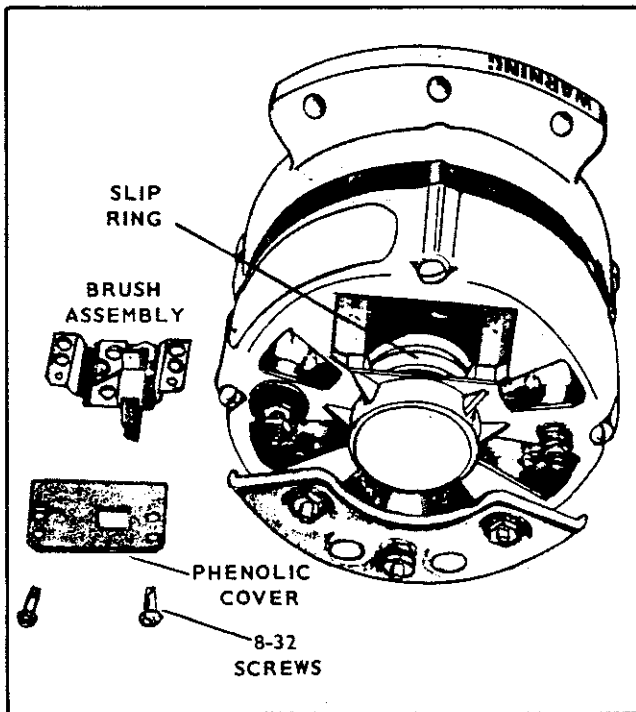

Figure 5-3. Alternator Brush Replacement
- (2) Remove two screws (17), brush holder cover (16) and dust shield (18). Pull the brush assembly (19) straight up and lift out of rear housing (32).
- (3) Inspect brushes for excessive wear. Brush assembly may be reused if brushes are 3/16 inch (4.763 mm) long or longer, are not oil soaked or cracked. See figure 5-3.